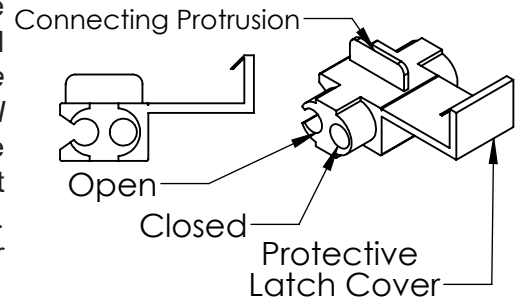

Fig. 6
15. Looking at the *Tap Splice Connectors* provided you will notice two wire channels - one that is open and one that is closed (Fig. 6). Slide the black wire of the Air Blast cable coming from the *Power Module* into the open channel, ensuring that the wire reaches the end of the splice connector. Then slide the black wire from the Air Blast cable coming through the bulkhead into the closed channel until it hits the backstop. Holding both wires securely in place, use a pair of pliers and squeeze down on the metal connecting protrusion on the splice connector. Gently pull on both wires to confirm that they are secure and connected. Once the wires are securely connected, fold the protective latch over the connecting protrusion on the connector until it latches. Failure to latch the cover could result in injury and/or product failure. Perform the same operation for the remaining white wires (and green if applicable).